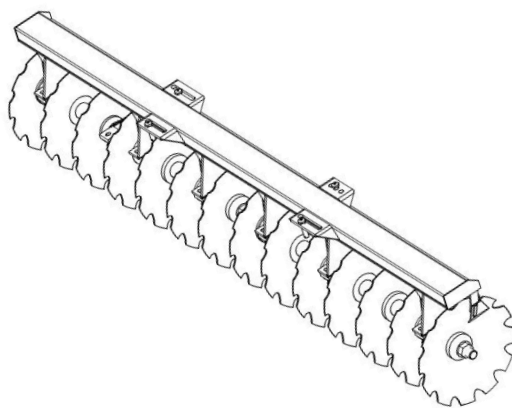

Figure 3.6
6. Back disc gang (Figure 3.6)